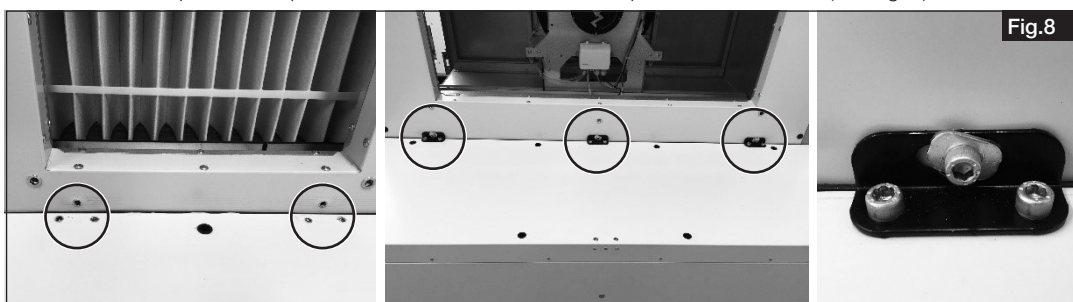

Fig.8
6. Fix sheet metal parts to the pre-heater. Connect AIR1 unit to the pre-heater as follows (see Fig. 8).